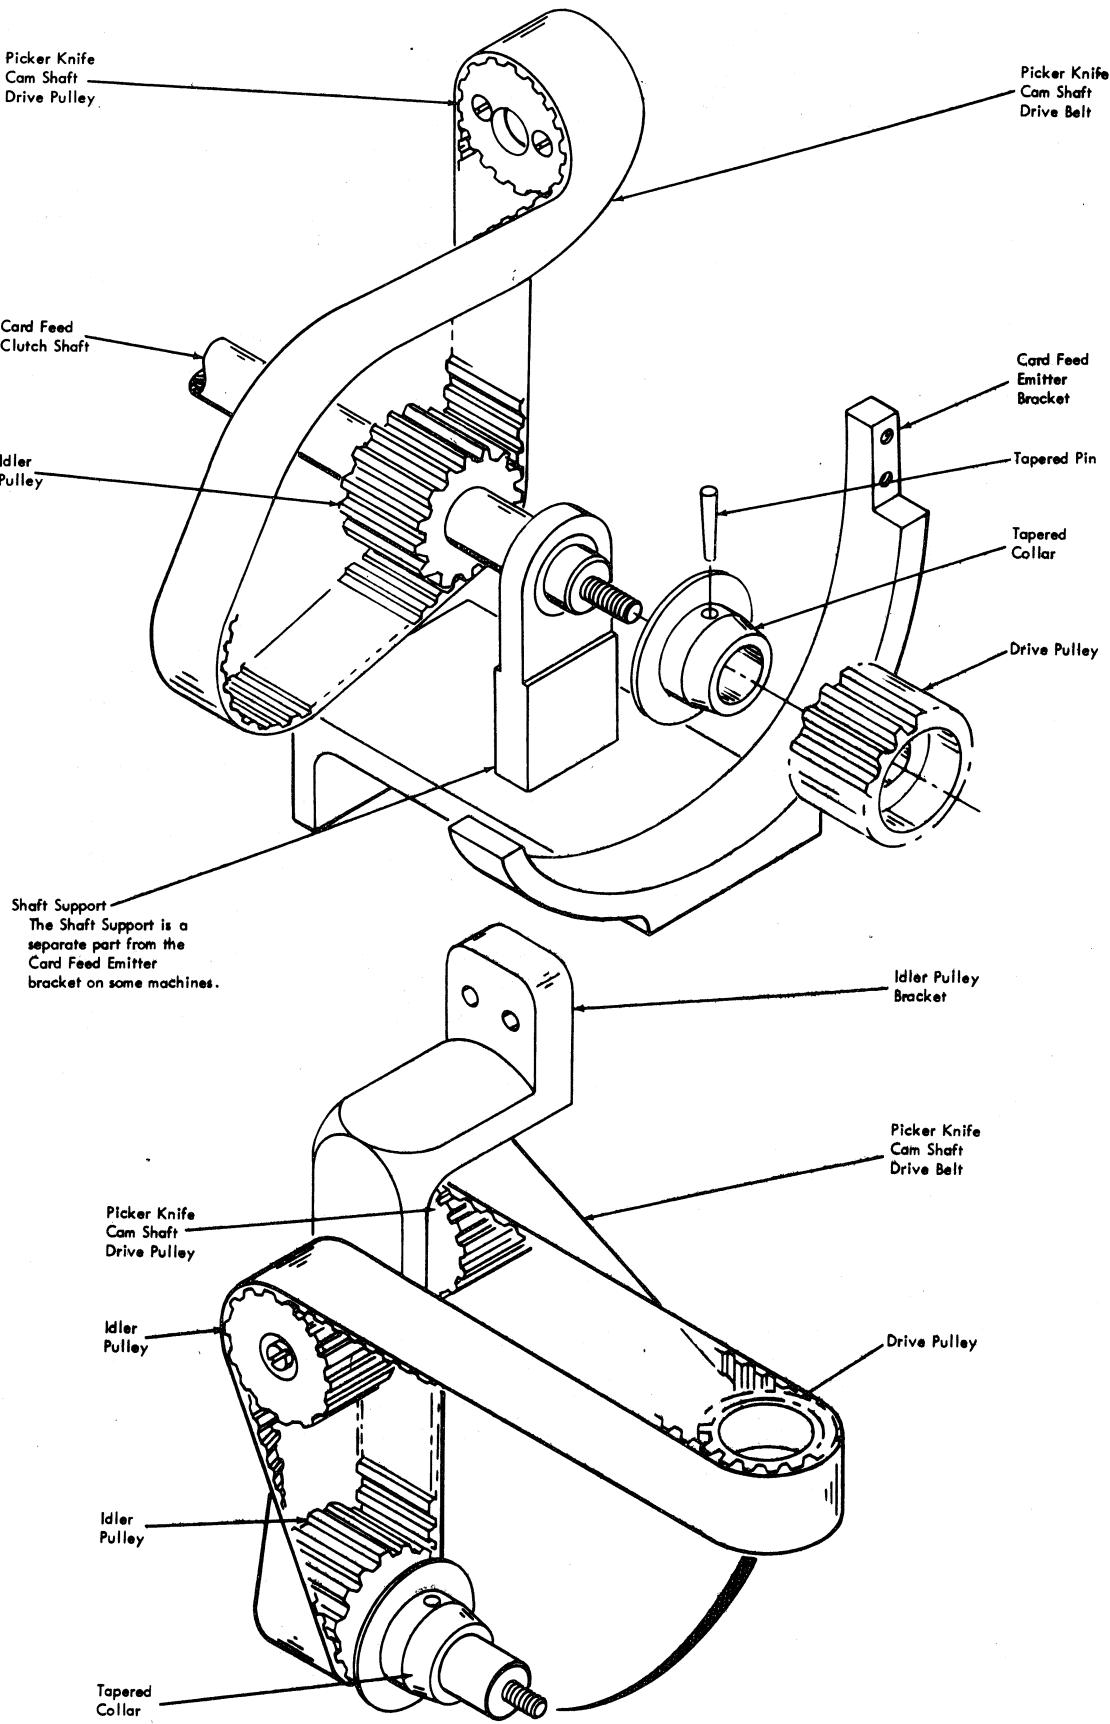

Figure 4-2. Pickerknife Camshaft Drive Belt Installation
The following removal procedure applies to machines with a solid CF emitter bracket and shaft support (Figure 4-2).
The following replacement procedure applies to machines with a solid CF emitter bracket and shaft support (Figure 4-2).
The following removal procedure applies to machines with a removable shaft support (Figure 4-2).
The following replacement procedure applies to machines with a removable shaft support (Figure 4-2).
8. Steps 8, 9, 10, and 11 apply to machines with belt driven pickerknives. In order to have the pickerknife camshaft drive belt in the proper position after the emitter bracket is installed, move the belt to the left to capture the CF shaft. See Figure 4-2.
11. Loop pickerknife camshaft belt over CF shaft idler pulley and belt idler pulley. With the lugs engaged in the two idler pulleys, install the picker camshaft drive pulley (taper end first) and belt onto CF shaft. See Figure 4-2. Install CF index and hand-tighten retaining nut.